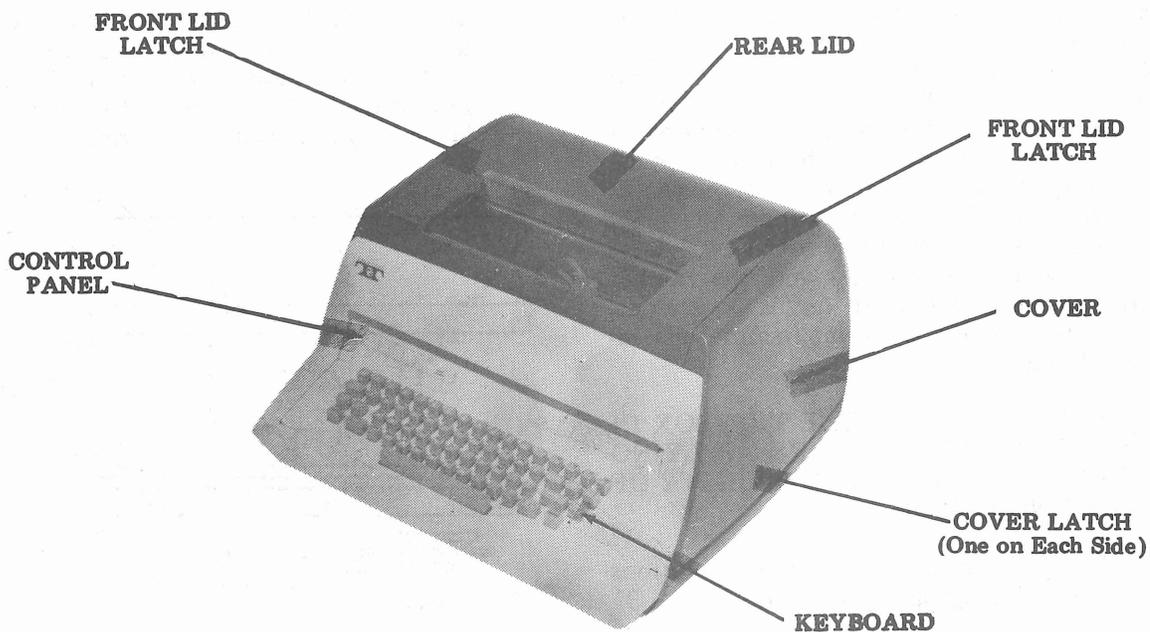

Figure 3 - Keyboard and Cover Assembly
2.05 Open the cover (Figure 3) by depressing the two cover latches (one on each side), and lift the front cover upward. If desired, remove the cover from the pan by the following procedure: